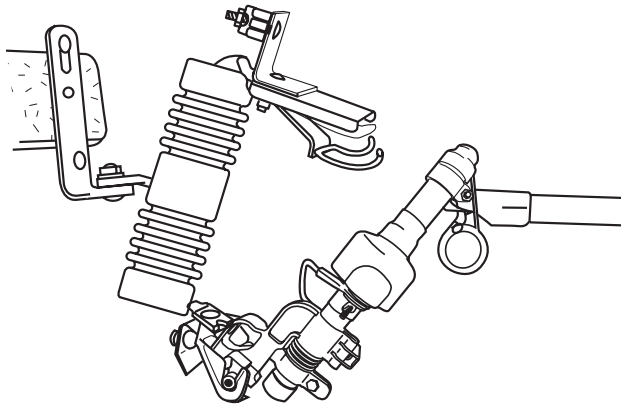

Figure 4. Closing the ASL into the Type L cutout.
4. To close the ASL, insert hook stick into the pull ring and rotate the sectionalizer to an intermediate position as in Figure 4.